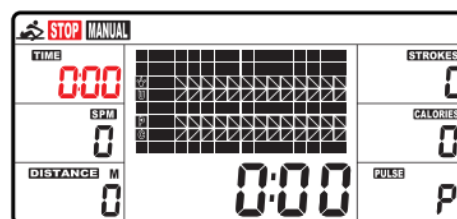

Fig. 4
### (1) MANUAL (Fig.4): There are 2 options in MANUAL mode.